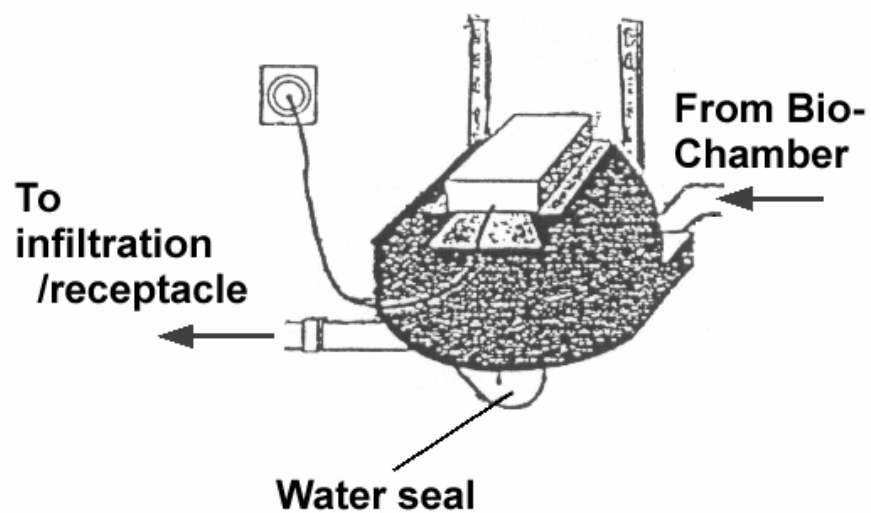

Figure 4: UV unit placed on consoles fixed on to the wall
- 4.3.1 The UV unit should be positioned in such a way that the waste water from the Separator and from the Bio Chamber can flow freely into the UV unit. It is recommended that the UV unit is placed on consoles fixed on to the wall, see Figure 4. Make certain that the aluminium lid is positioned in such a way that it can be easily removed for accessing the UV fixture when replacing burned-out UV light tubes, for inspection, cleaning the interior of the UV Unit etc.